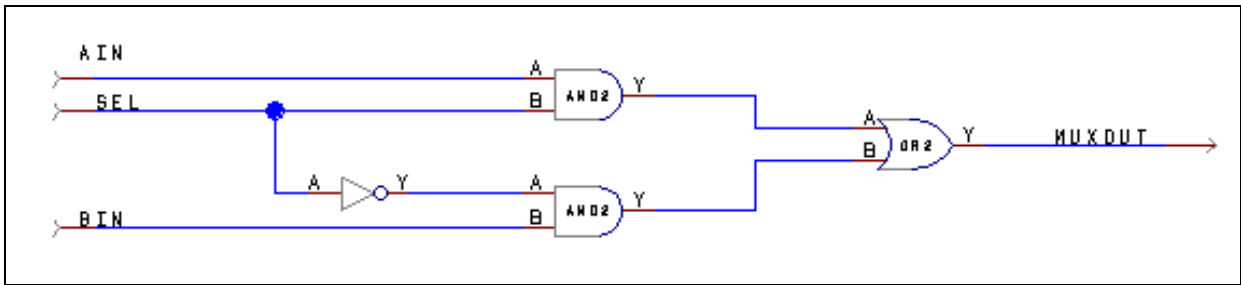

Figure 1 Libero IDE Schematic (two input mux)
A two input multiplexor in Figure 1 has been implemented in the Libero IDE schematic entry tool using symbols from the Actel “eX” symbol library. Using Actel's Libero IDE tool suite, you will complete the following:
- Begin creating the schematic shown in Figure 1 by placing the components onto your schematic.
In the drop-down edit field, type in the name you want to assign the I/O. Click OK. The name you enter will appear on the schematic. The following names should be assigned, as shown in the schematic in Figure 1 on page 4.